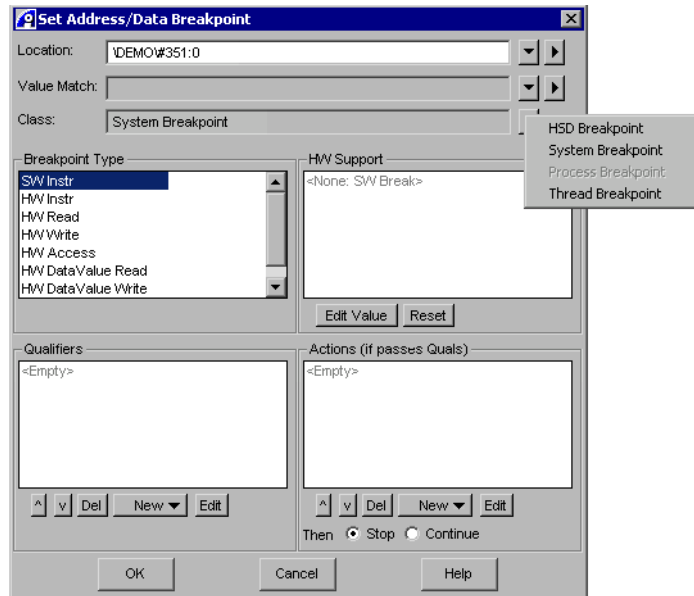

Figure 15-20 RTOS Breakpoint Class selector
2. Select **Set Break...** to display the Set Address/Data Breakpoint dialog box, shown in part in Figure 15-20 on page 15-52.